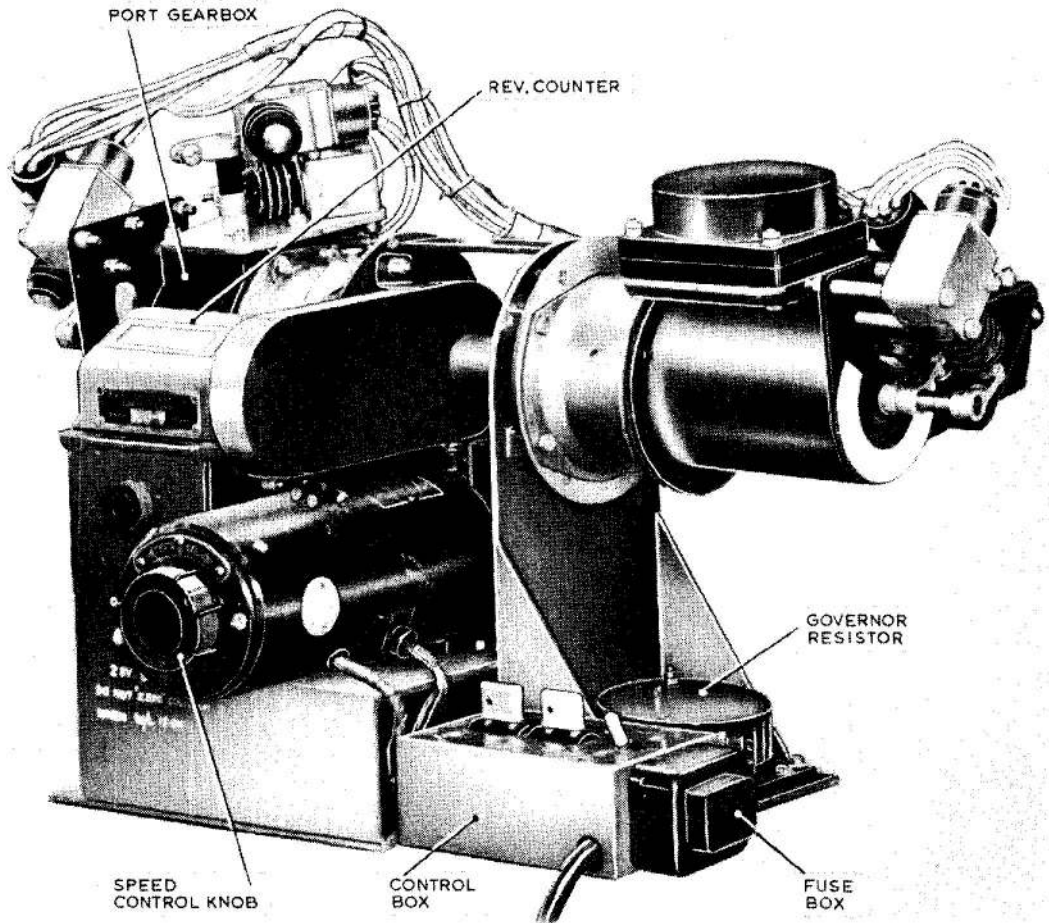

Fig.2. Gearbox assembly with flap position gearbox attached
and starboard indicator gearboxes under test, are attached to the output shaft via a splined coupling, (fig.2).
3. The speed of the motor can be varied between 20 and 65 rev/min. by adjustment of the speed control knob, which is mounted on the commutator end of the machine. (fig.2).
7. The flap position gearboxes under test are attached to the test set as shown in fig.2, the starboard gearbox on the right and the port gearbox on the left. All the connecting leads from the gearboxes are connected to the Snap Blocks of appropriate identification.